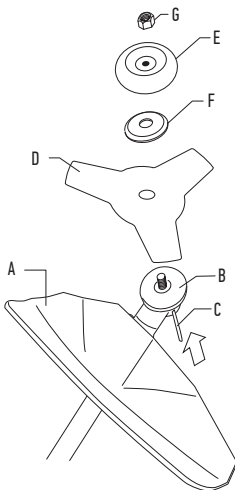

Fig. 4
- ▶ Remove the extension of the trimmer guard (Fig. 4).
- ▶ Fit the drive disc (B) on the output shaft.
- ▶ Insert a locking pin (C) in the hole to lock the shaft.
- ▶ Fit the blade (D) and support flange (F) on the output shaft.
- ▶ Fit the support cup (E).